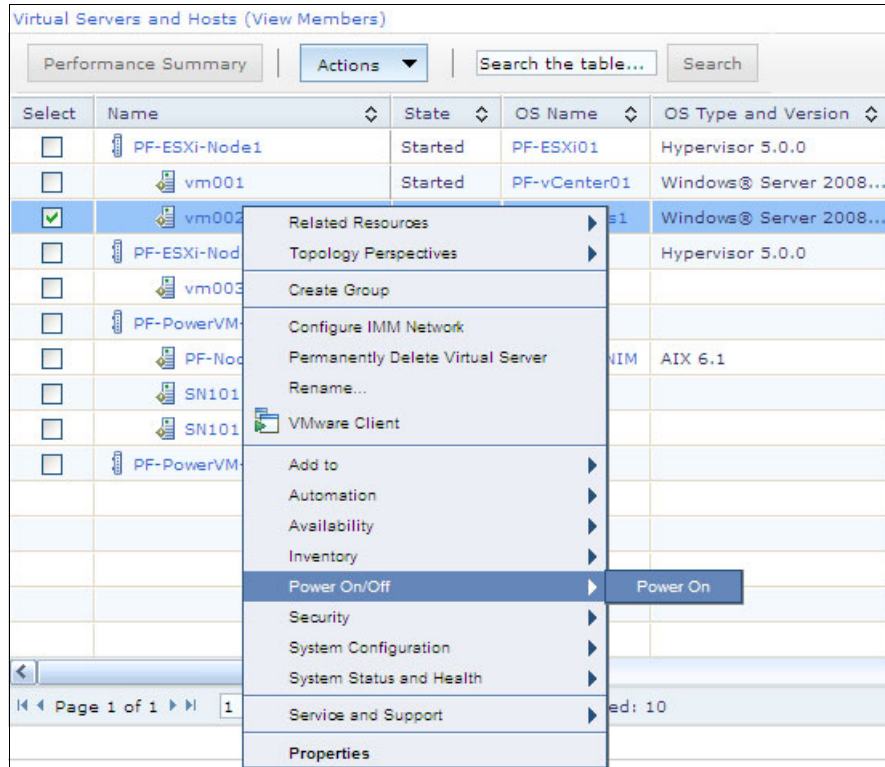

Figure 11-46 Power On menu item in the Virtual Servers and Hosts window
8. Right-click **vm002** and power it on by selecting **Power On/Off** → **Power On**. See Figure 11-46.